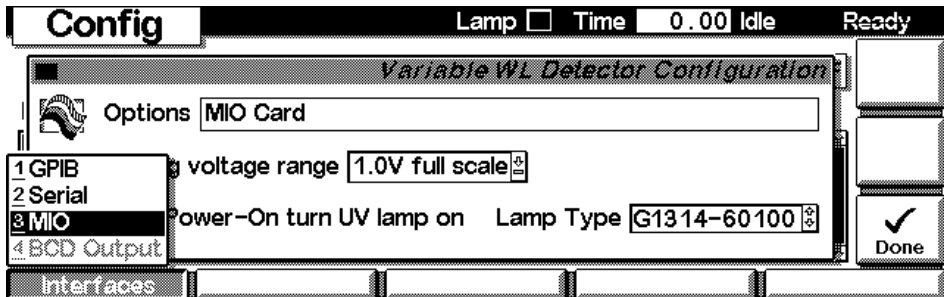

Figure 26 Select MIO
- 3 Press F1 “Interfaces”, select “MIO” and press the “Enter” key (Figure 26).